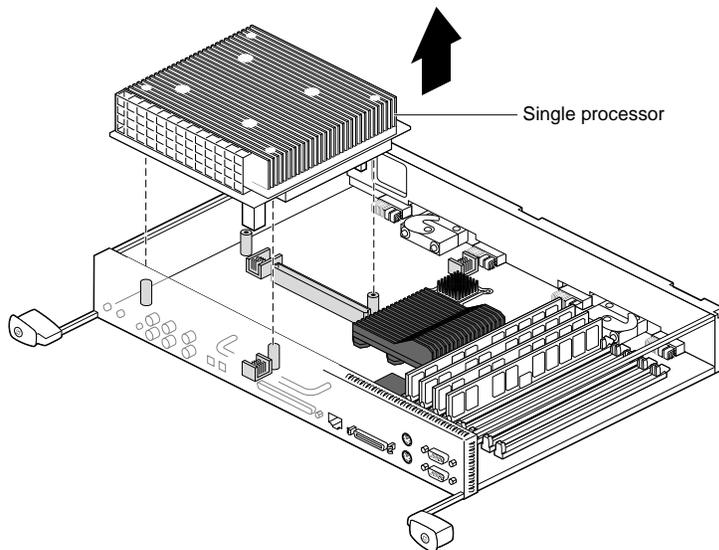

Figure 2-12 Lifting a Single Processor from the System Module
2. To release a single processor, slide your fingers under its edge closest to the back of the module, then push up to release it, as shown in Figure 2-12. You may need to use two hands to lift it out.